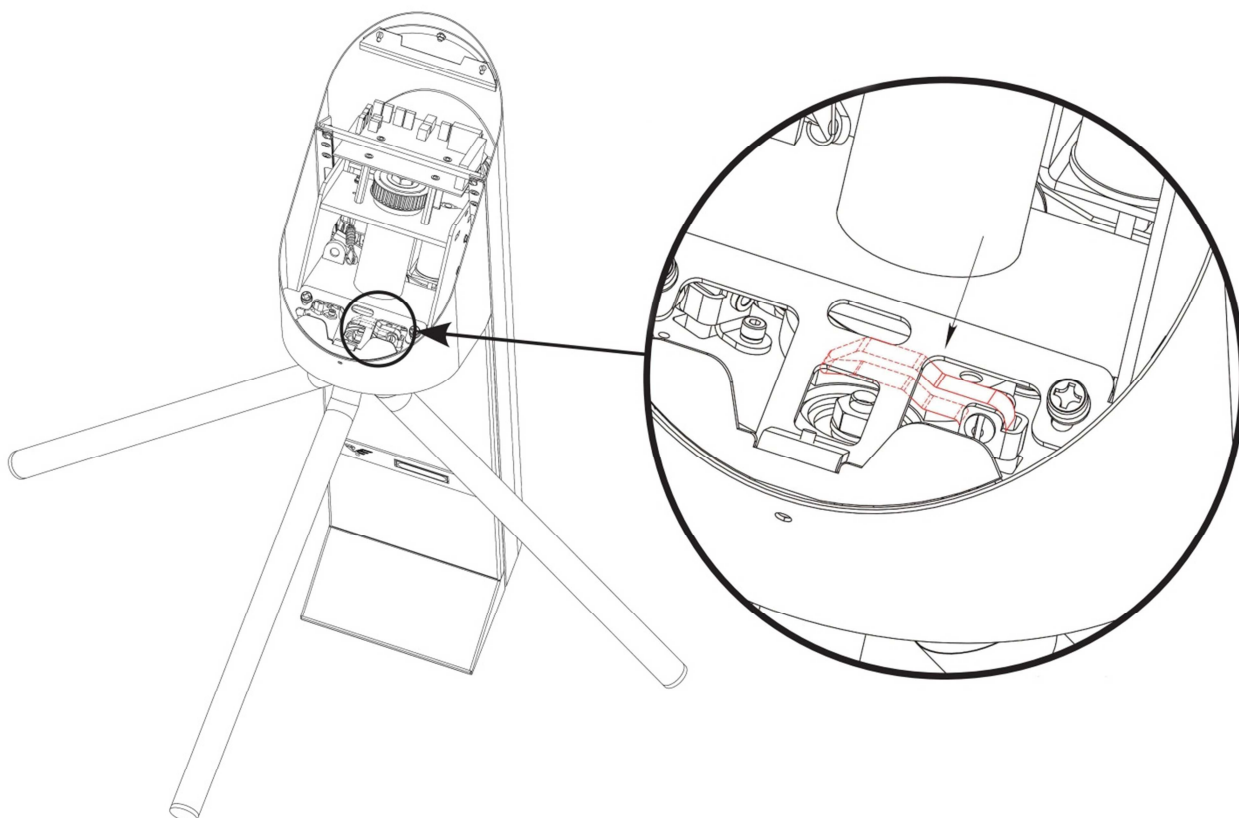
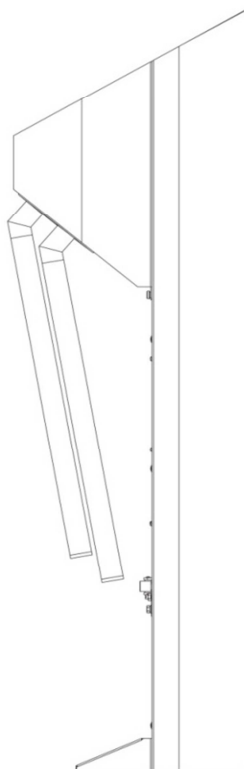

Fig. 6
Fig. 7
3.4. Next step is to fold the arms. In order to do it press gently on the arms fixing cam in the direction shown in Fig. 6. Arm shall be free rotating freely about the short axis. Fold the second arm in the same manner by turning the disc. The result is shown in Fig. 7.